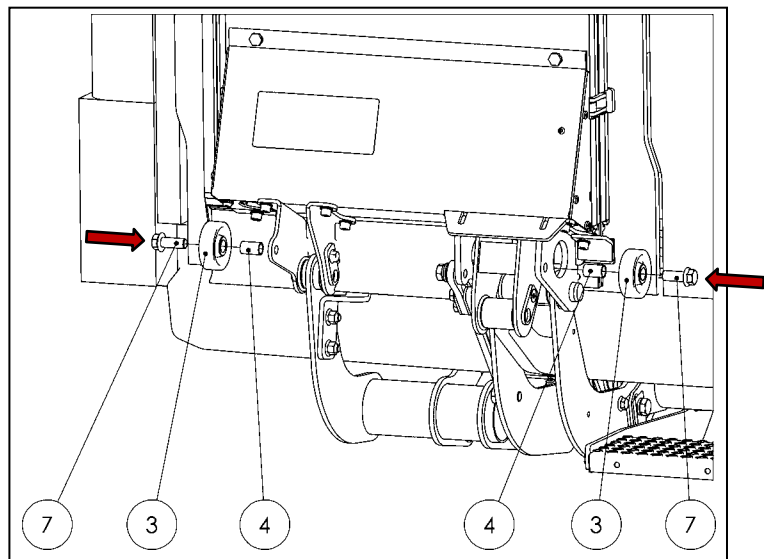

Figure 65
- Remove the flange screws (7), bushings (4), and ground rollers (3) from the accessories kit (see Fig. 65).